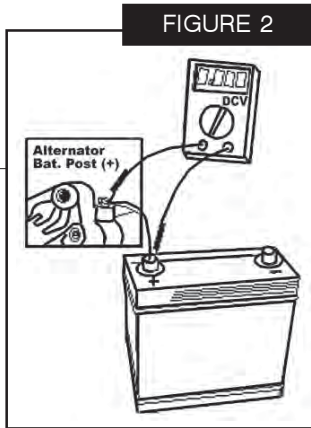

FIGURE 2
- ◆ Using the voltmeter, measure the voltage drop between the batty positive post (+) and the alternator output post (See figure 2). Voltage should be less that 0.40VDC. If voltage is higher that 0.40VDC, check for poor connections between the alternator and the battery. Possible causes are undersized battery cables, loose or improperly crimped terminals, and corroded connections.